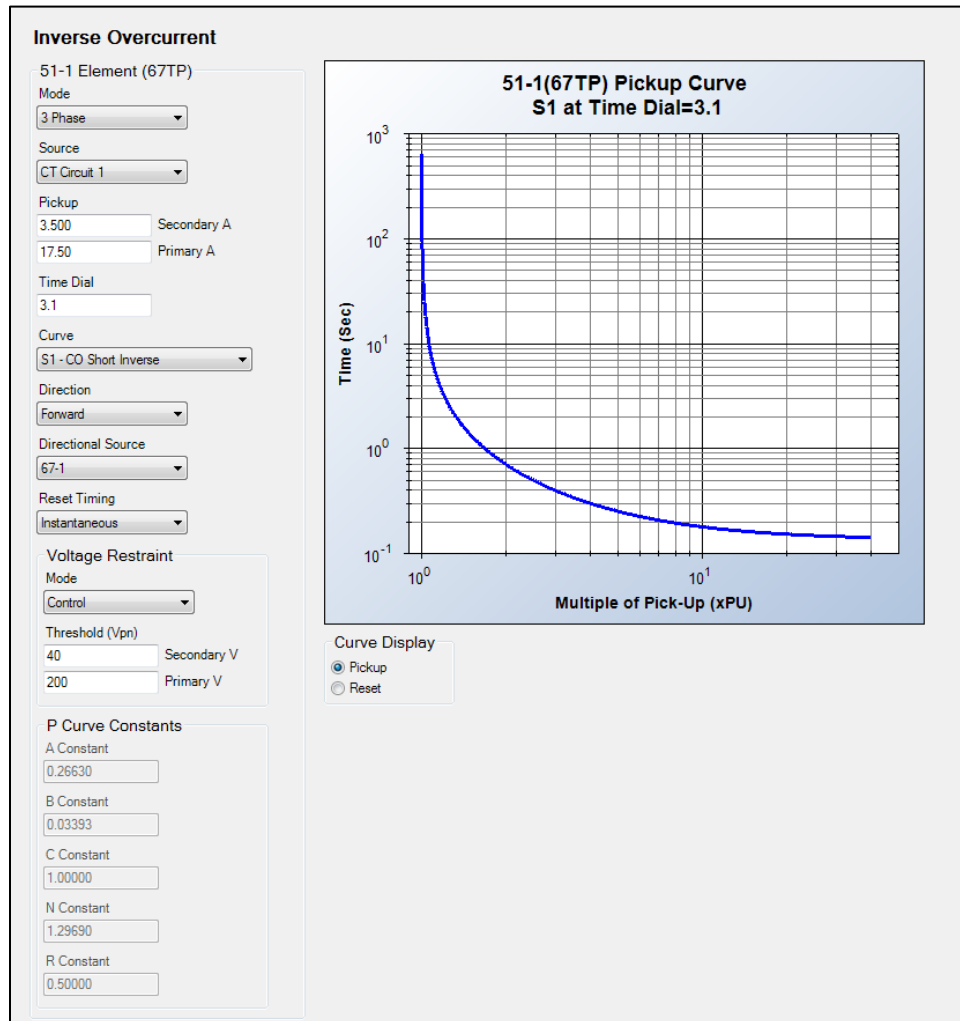

Figure 16-4. Inverse Overcurrent Settings Screen
Inverse overcurrent element operational settings are configured on the Inverse Overcurrent (51) settings screen (Figure 16-4) in BESTCOMSPlus.